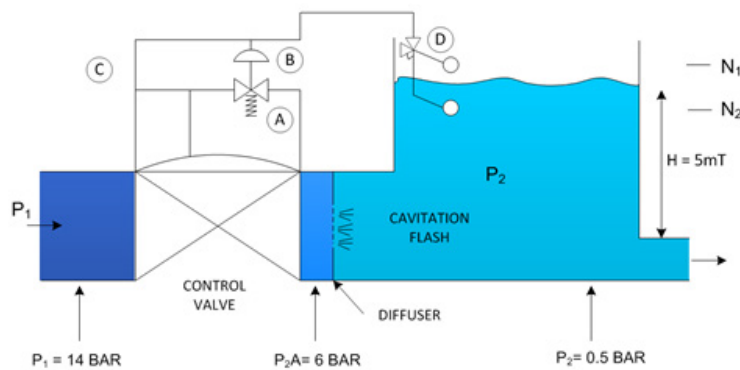

Fig. 20
- Application of a specific valve with a diffuser to control level and also cavitation intensity and flow rate (Fig. 20)
To prevent a system collapse, install a specific valve and a correctly sized diffuser (Fig. 20).